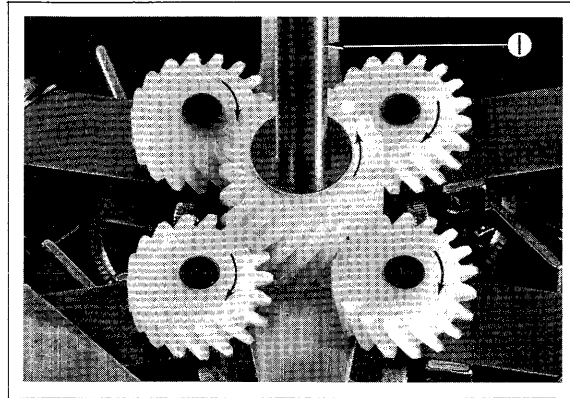

Figure 9
Drive power is supplied to the four clutch shaft driven gears through a drive gear mounted on the motor shaft and centered within the four driven gears. Figure 9 shows the gears and their relationship to each other. Note: The shaft (1) on the drive gear represents the motor shaft, for reference only.